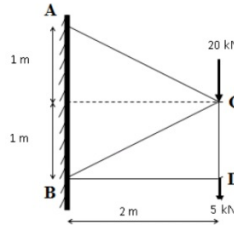

Figure: 3
3. Using unit load method, determine the vertical deflections at the joint C of a steel pin-jointed frame subjected to a concentrated load of 20 kN as shown in Figure 3. All the members have the same cross-sectional area = 500 mm². [15]